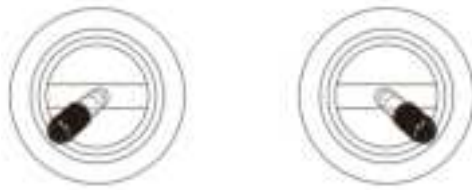

Figure 2-4 Unlock
- Perform the operation shown in Figure 2-4 to lock the drone.